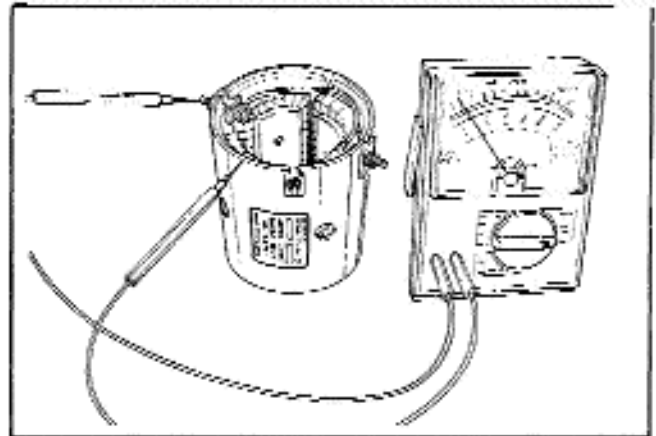

Figure 14 - Grounded Field Test
1. Attach continuity tester or ohmmeter between F1 terminal and motor frame. Continuity tester should not light, ohmmeter should read infinity. See Figure 14.